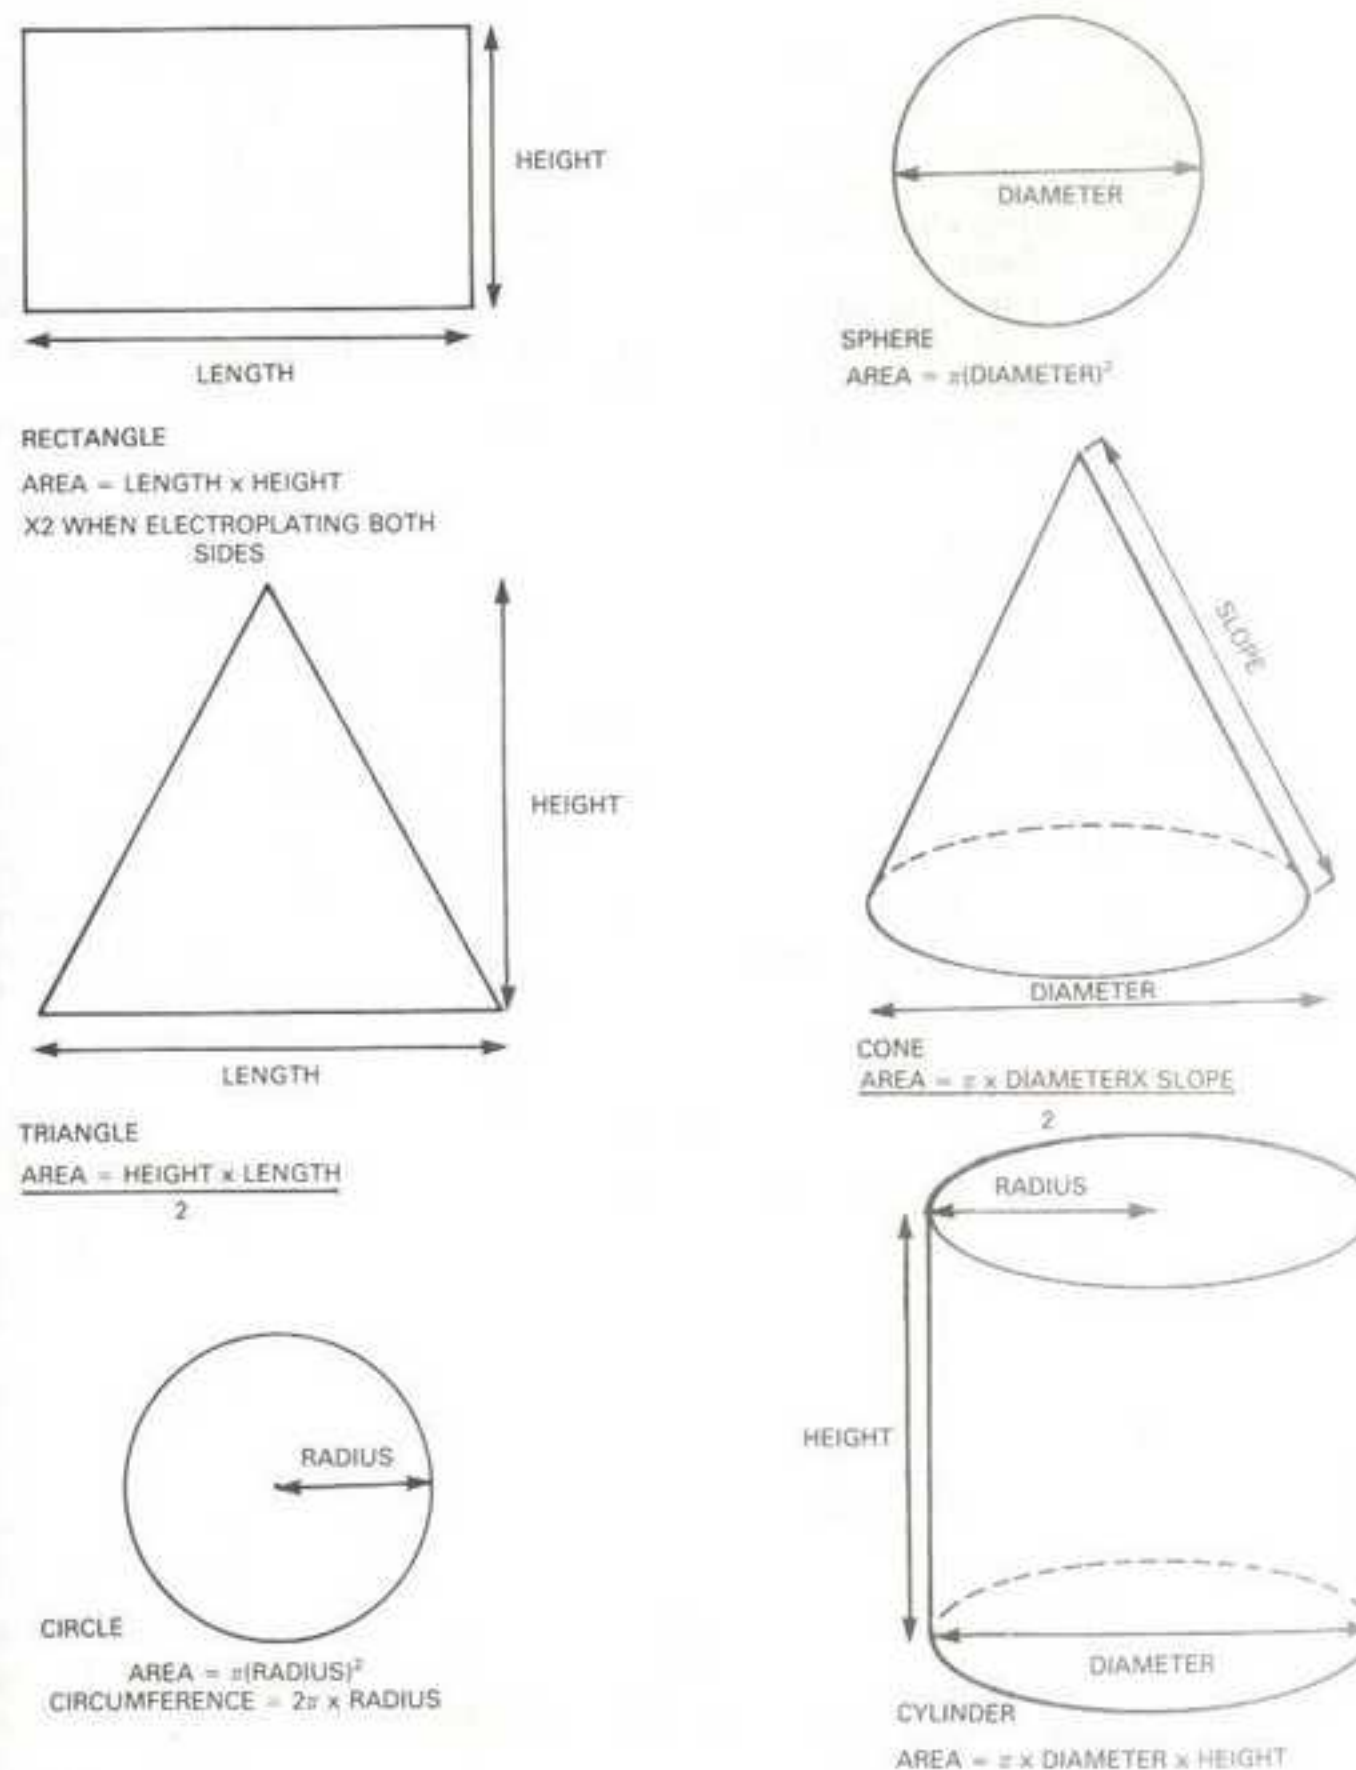

Fig. 3
- (1) The range of current density will be given for the electrolytes in the chapter on electrolytes.
- (2) The measurement of the surface area of the components to be electroplated require an elementary knowledge of mensuration. Some helpful examples for working out the surface areas are shown (Fig. 3).